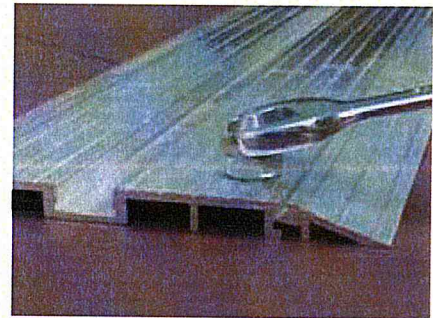

Figure 1
2. The side panel bottom pivot is installed in the threshold and can be adjusted for height **Figure 1**. If the threshold filler is not installed, it can be tapped in with a wood block and rubber mallet.
1. Remove panels from carton. Lift panel and place bottom pivot bushing (factory installed in bottom panel stile) onto the track pivot **Figure 1**. Raise the top pivot pin in the header and place the panel into position. Push the pivot pin in the header down to engage the panel pivot bushing in the top of the panel style **Figure 2**.